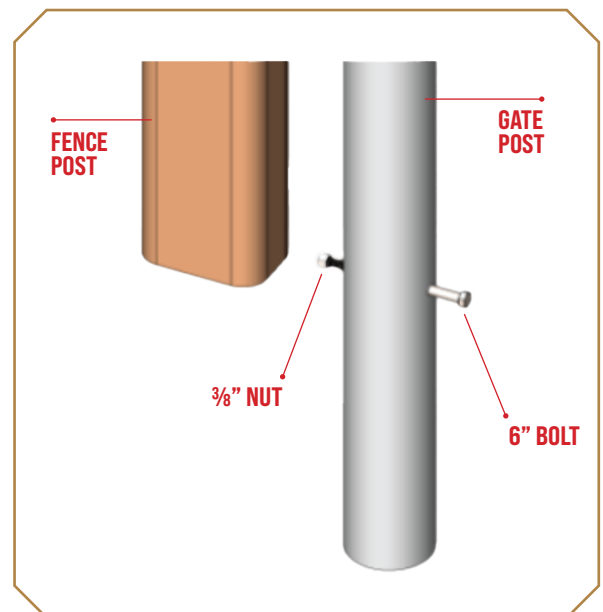

Figure 2
2. Slide the 6" bolt through the hole to anchor to anchor the bottom of the heavy round gate post. Put on the 3/8" nut for retention (Figure 2).